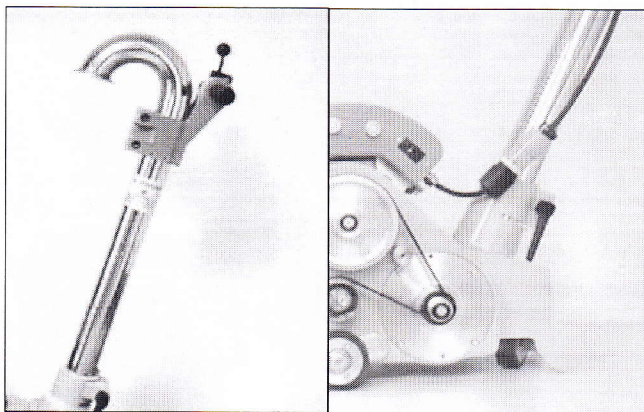

Fig. 9
❶ Fit the dust suction tube in place. (Fig. 9).